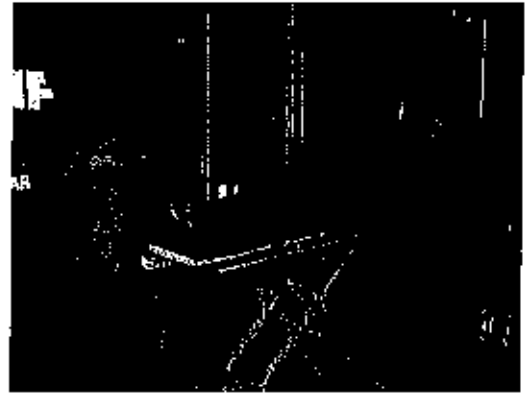

Figure 33
- **Operator 1** – Depress the extend (+) button to lower the undercarriage to its fully extended position as shown in Figure 33.